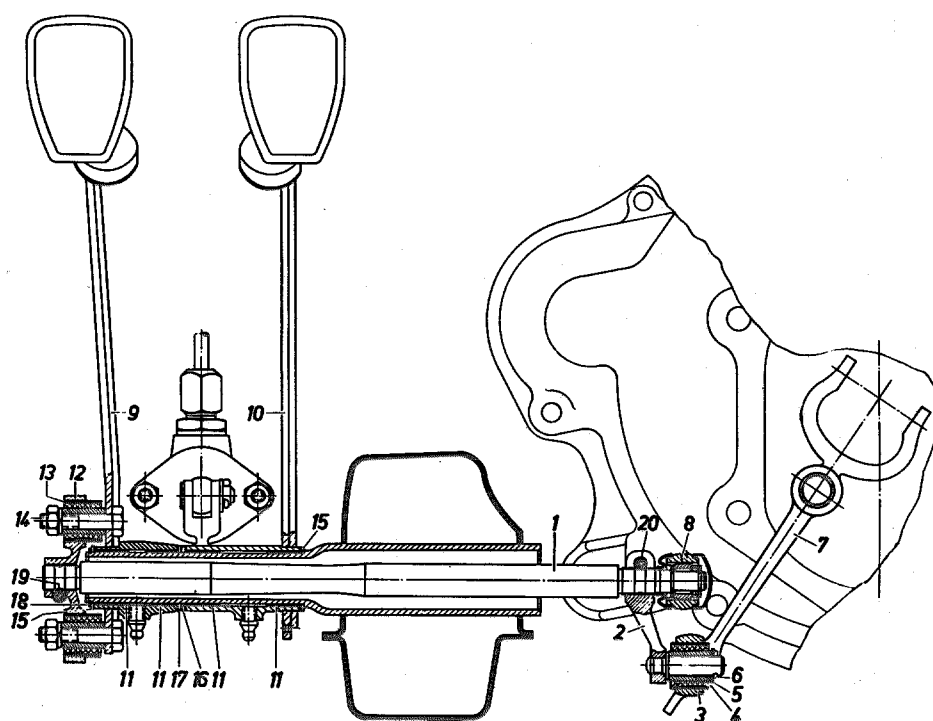

Fig. 29 — 1/1
The clutch is actuated by the clutch pedal via a shaft. The clutch pedal is supported by a tube fastened to the chassis base panel. On the left-hand side the clutch pedal shaft (1) is connected to the clutch pedal by a flange (12) and two buffers (13). On the right-hand side the clutch pedal shaft is supported at the clutch housing by the sprung swivel support (8) (Fig. 29 — 1/1). The clutch pedal shaft and the swivel support are connected by a ball supported on a needle bearing.